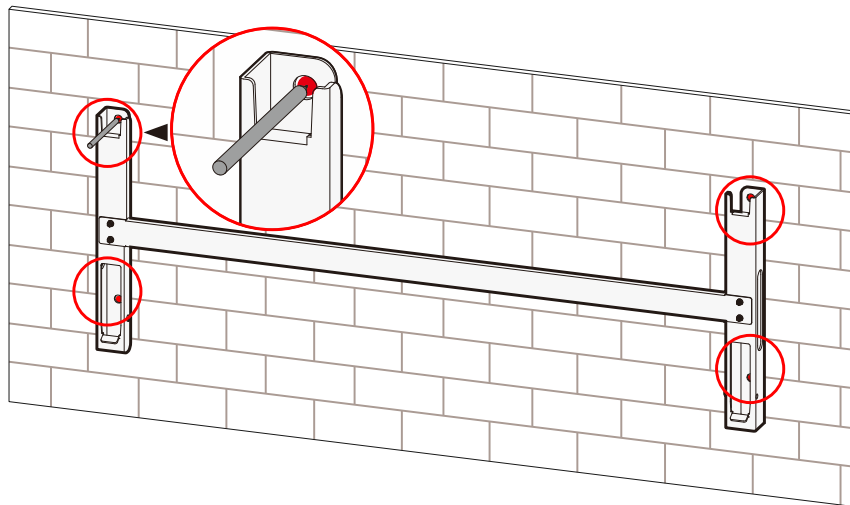

Figure3-19 Mark the mounting holes position
Step 2 Place the assembled installation holder onto the installation site, use a horizontal ruler to adjust the angle, and mark the mounting hole position on the bracket, as shown in Figure3-19.